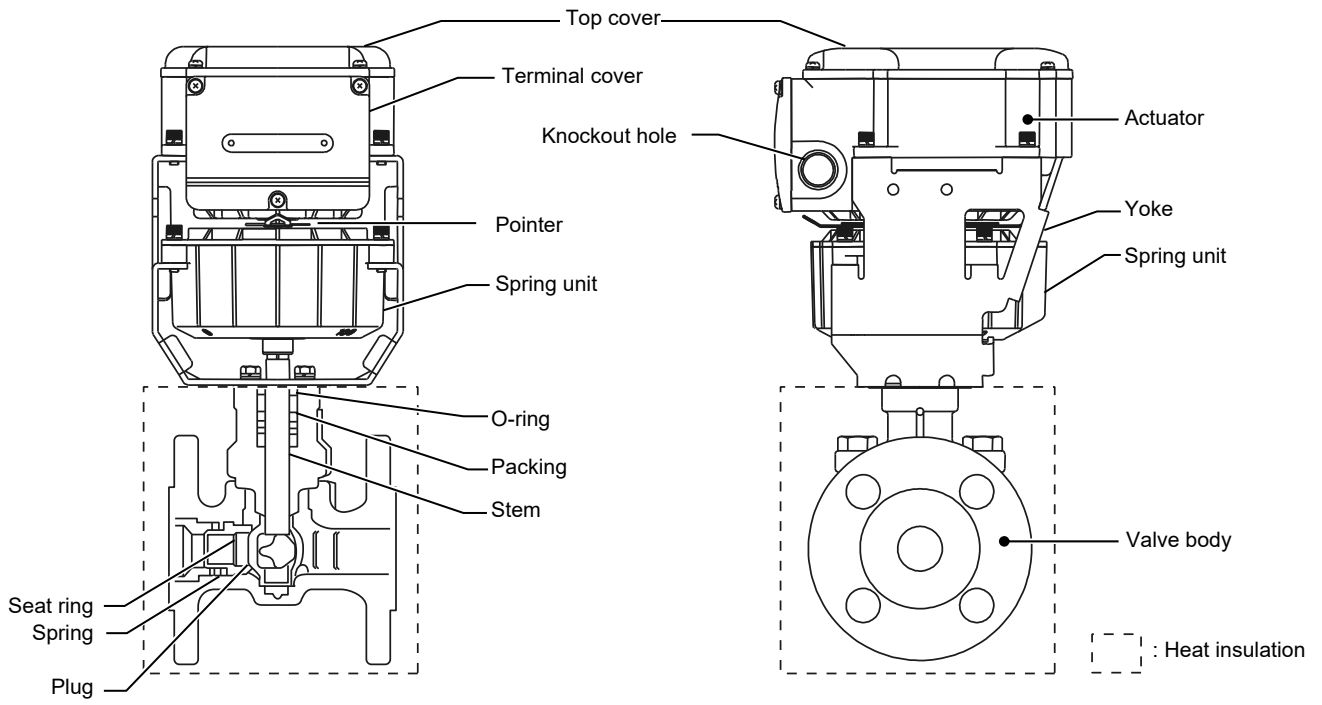

Figure 4. Parts identification
- Install the ACTIVAL in a position allowing easy access for maintenance and inspection. Fig. 4 shows the minimum clearance for maintenance and inspection. When installing the ACTIVAL in a ceiling space, provide an access hole within the 50 cm radius of the ACTIVAL. And, place a drain pan under the valve.